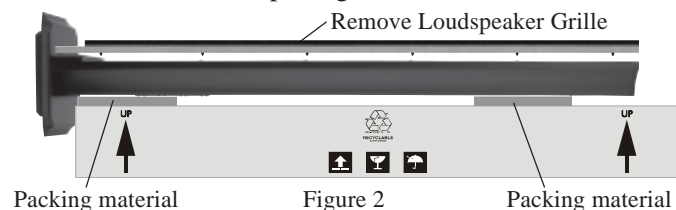

Figure 2
8. If the XRT29/XRT30 Column’s original shipping carton is available, place the Loudspeaker Column on top of the packing material located on top of the shipping carton aligning the Column Bottom End (the Glass Name Plate end) to the end of the shipping carton. If the carton is not available choose a suitable object that will place the Loudspeaker Column at least one foot (30.48cm) off the floor. Refer to figure 2.
9. Carefully remove the Grille from the Column and store it in a safe location for possible future use. Refer to figure 2.